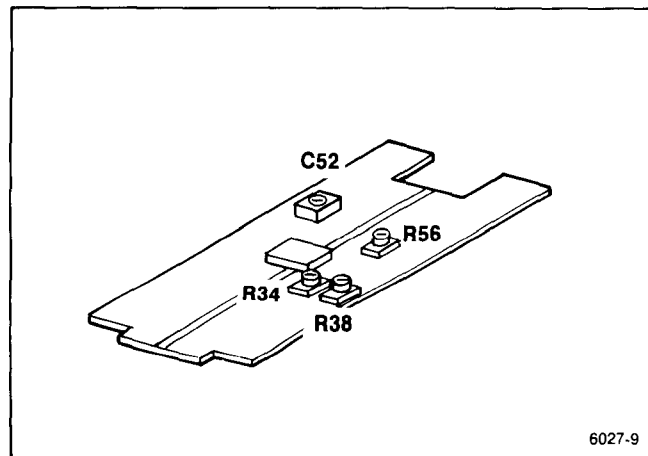

Figure 4-1. P6231 adjustment locations.
Adjustment locations are shown in Figure 4-1. Only the adjustable components are illustrated in this figure.
e. ADJUST — R38 (see Figure 4-1) for minimum trace shift while rotating the OFFSET VOLTAGE on the oscilloscope control back and forth.